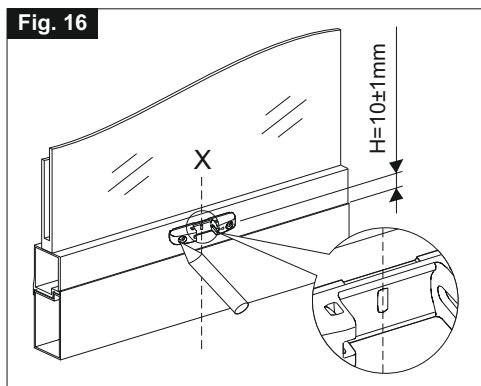

Fig. 17
- 5) **Fig. 17/18-** With a suitable drill, perform two holes on the wing and tighten the quick coupling with proper screws;